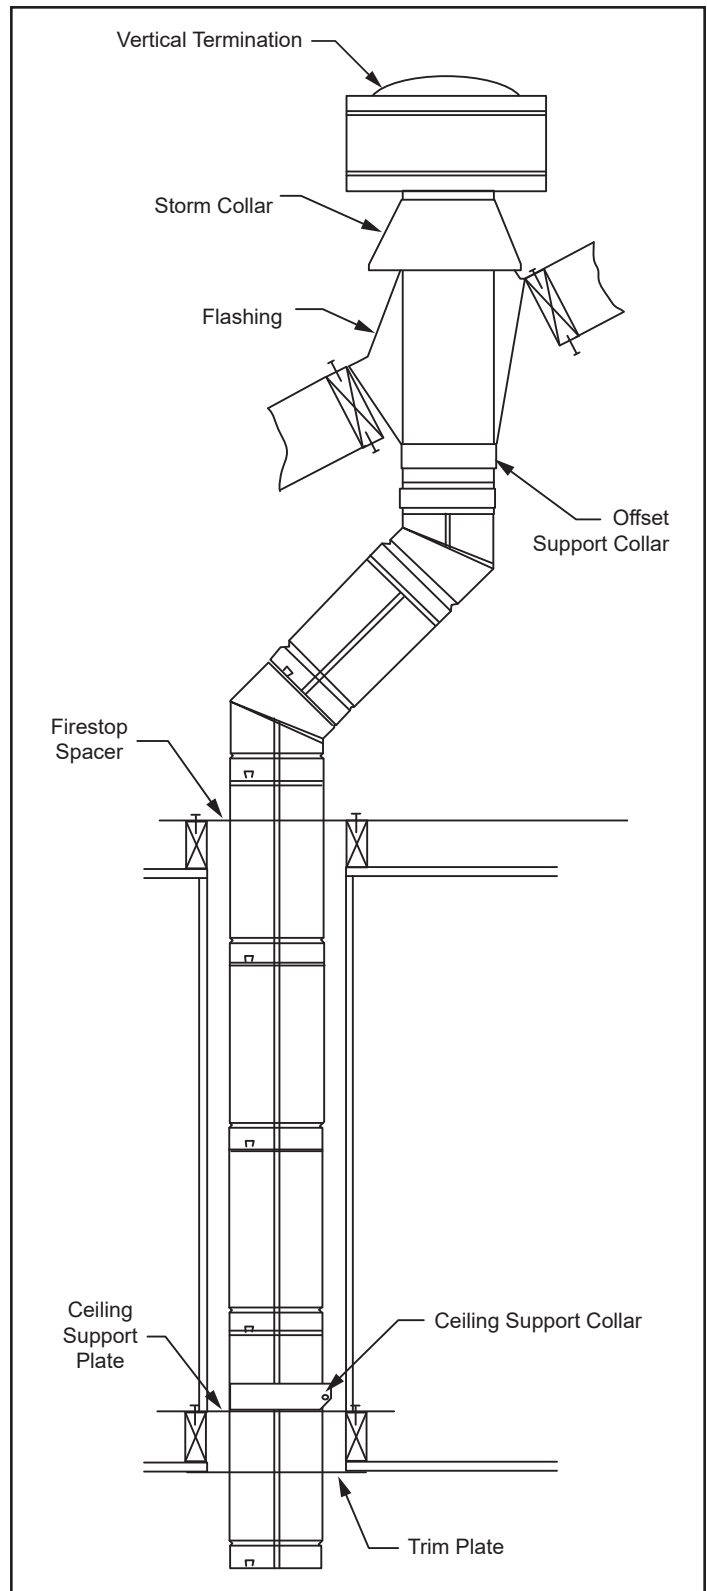

Figure 3.17 - Typical Vertical Venting Configuration
- Vertical installations up to 40 feet (12 m) in height. Up to a 10 feet (3 m) horizontal vent run can be installed within the vent system using a maximum of two 90° elbows, Figure 3.17.
- A minimum of an 8 feet (2.5 m) vertical rise is required, Figure 3.17.
- Two sets of 45° elbow offsets may be used within the vertical sections. From 0 to a maximum of 8 feet (2.5 m) of vent pipe can be used between elbows, Figure 3.17.